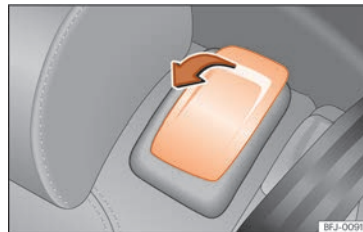

Fig. 112 Second row of seats:: access aid controls.
- Pull the release lever »» Fig. 112 in the direction of the arrow.
- Pull the lever »» Fig. 112 and push the backrest backwards until it is in a vertical position. The entire seat folds down »» ⓘ.